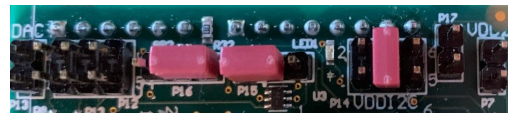

Figure 2. Jumper Settings
Step 2: Configure the jumpers on the Arduino Adapter Shield. Figure 2 shows the jumper settings for a microcontroller board with Arduino UNO R3 compatible headers using PWM for Analog Dimming.